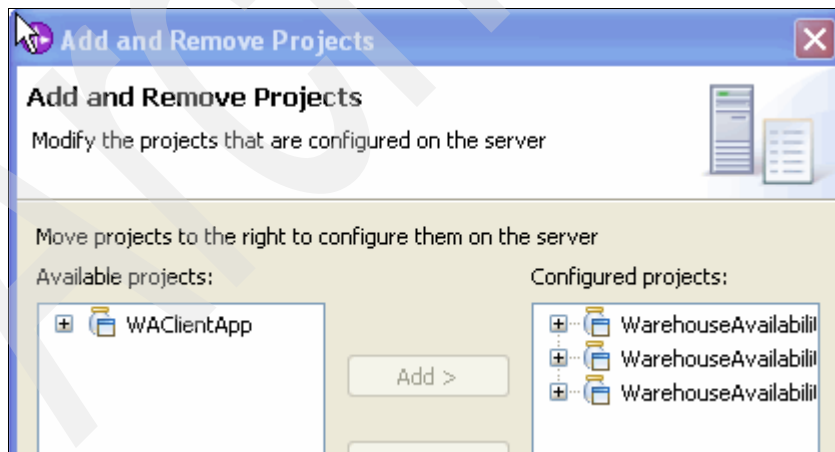

Figure 6-10 Warehouse Availability Systems Web services deployment
2. Deploy WarehouseAvailabilityServiceA, WarehouseAvailabilityServiceB, and WarehouseAvailabilityServiceC to the server, shown in Figure 6-10.